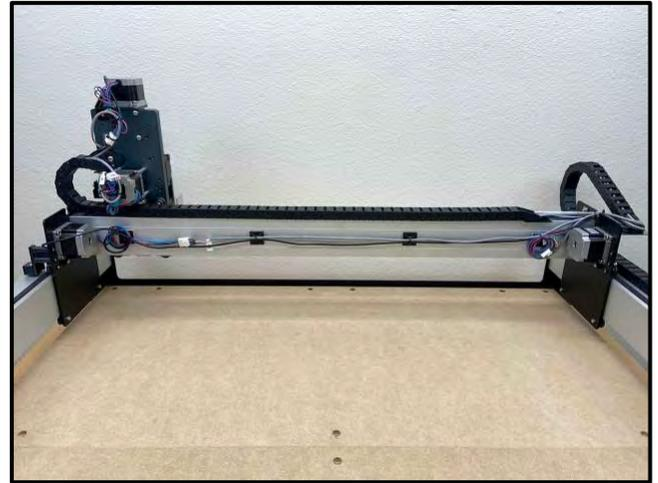

Figure 43
1. Tidy up the cables along the rear of the X-rail. See *Fig. 43*.